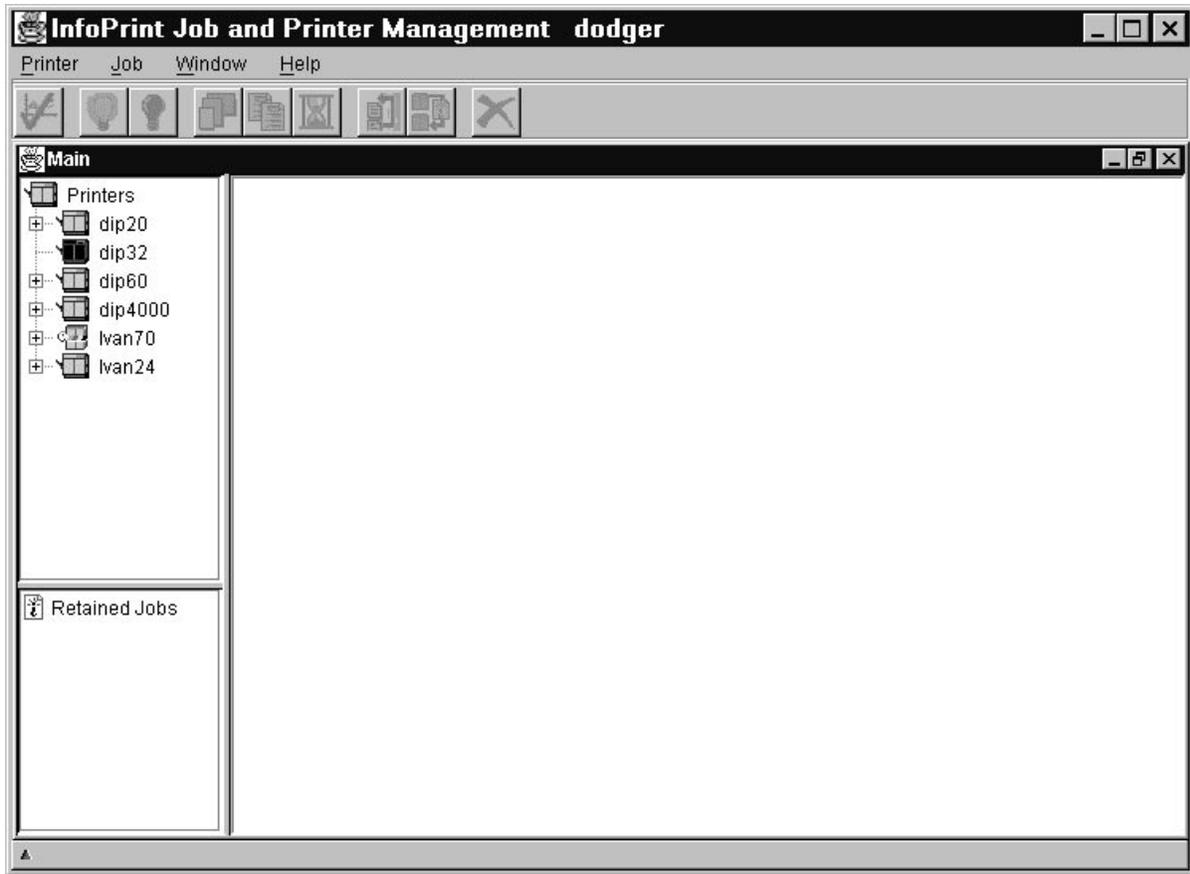

Figure 22. Basic View of the Main Window of the InfoPrint Job and Printer Management GUI
- Select **InfoPrint Basic** to open a view similar to Figure 22 on page 55.
- Select **Basic Operator GUI** to open a view similar to Figure 22 on page 55.
- Double-click on **Basic Operator GUI** to open a view similar to Figure 22 on page 55.
- To open a view similar to Figure 22 on page 55, enter: